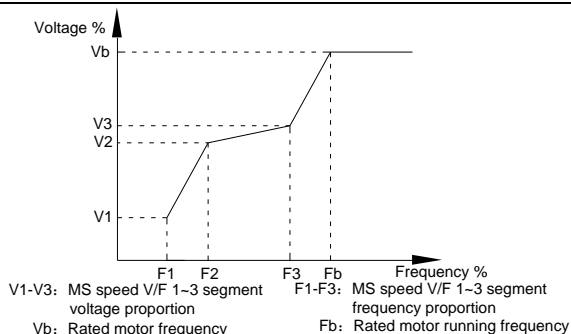

Fig. 5-4 Multi-point V/F curve setup schematic diagram
1) It must be set as follows: $V1 < V2 < V3$, $F1 < F2 < F3$. Fig5.4 is schematic diagram for multi-point V/F curve.